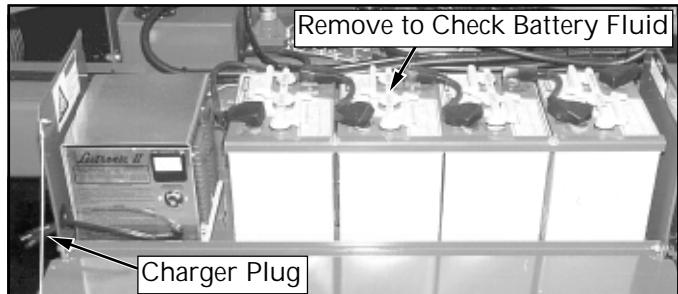

Figure 4: Chassis Power Module, Left Side
Check battery fluid level daily (Figure 4), especially if work platform is being used in a warm, dry climate.
1. Check battery fluid level (Figure 4). If electrolyte level is lower than 10 mm ($\frac{3}{8}$ in.) above plates add distilled water only.
3. Connect extension cord (1.5 mm² (12 guage) conductor minimum and 15 m (50 ft.) in length maximum) to charger plug located at the front side of the left chassis module (Figure 4). Connect extension cord to properly grounded outlet of proper voltage and frequency.